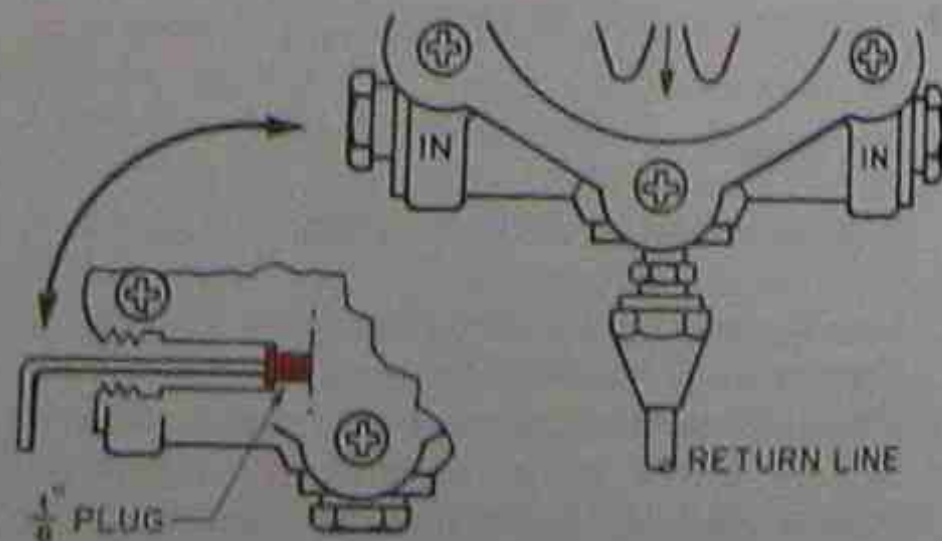

Figure 32-51. Installation of bypass plug for conversion to two-pipe system. Courtesy Webster Electric Company
3. Remove inlet port plug from the unit, Figure 32-51.